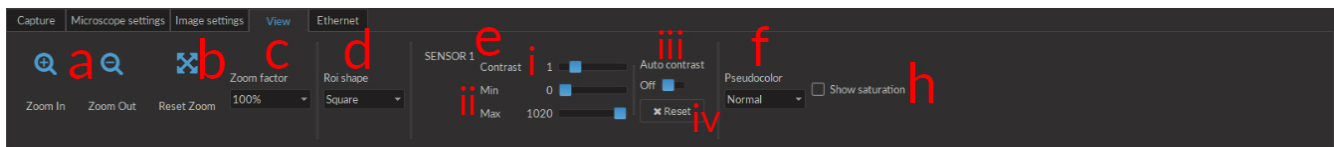

Figure 3.55: View Tab
- a) The **Zoom In/Zoom Out** buttons (Fig. 3.55) will increase/decrease the zoom of the sensor image.
- b) The **Reset Zoom** button (Fig. 3.55) will reset the **Zoom factor** to 100%.
- c) The **Zoom Factor** drop-down list (Fig. 3.55) allows the selection of a zoom factor from a pre-set list. The box will also display the current zoom if it was changed using different buttons.
- d) The **Roi shape** drop-down list (Fig. 3.55) allows the selection of the shape used when drawing a **Region Of Interest** onto a sensor image. These shapes include **Freehand**, **Circle**, **Rectangle** and **Square**.
- e) The **SENSOR** section (Fig. 3.55) is used to adjust contrast on a given sensor. When a microscope used has multiple sensors, multiple **SENSOR** sections will be displayed, one for each sensor.
- i. The **Contrast** slider (Fig. 3.55) allows the adjustment of contrast from 0.1 to 5.
- ii. The **Min/Max** sliders (Fig. 3.55) indicate the minimum/maximum number of counts displayed. Should the **Min** be above 0, all pixels with lower count will display a minimal value. Should the **Max** be below 1020, all pixels with a higher count will appear saturated.
- iii. The **Auto contrast** slider button (Fig. 3.55) will active an automatic contrast adjustment algorithm.
- f) The **Pseudocolor** drop-down list (Fig. 3.55) allow the sensor image color palette to be changed.
- g) The **Show saturation** checkbox (Fig. 3.55) allows all saturation on the sensor image to be displayed in red. This function is only available if no pseudocolor is selected.